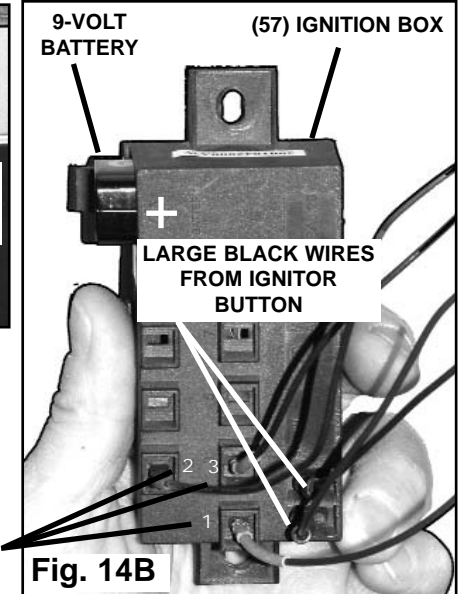

Fig. 14B
- Hold the Ignition Box (57) in your hand. (Fig. 14B)